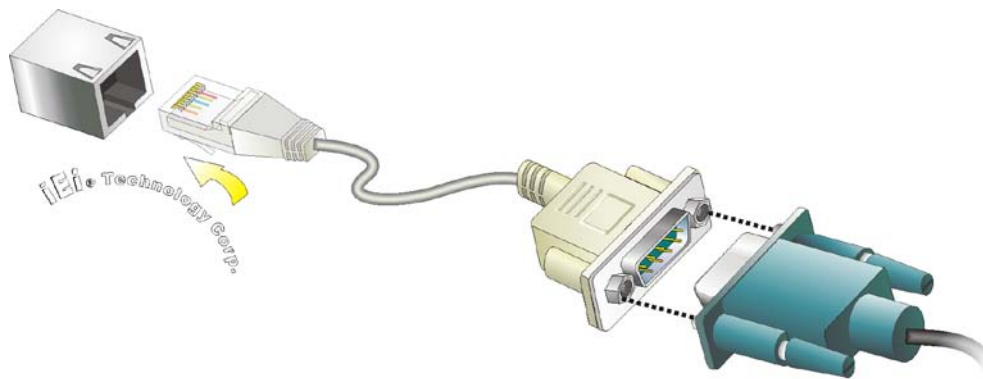

Figure 3-26: RJ-45 RS-422/485 Serial Device Connection
Step 2: **Insert the RJ-45 connector.** Insert the RJ-45 connector on the RJ-45 to DB-9 COM port cable to one of the RJ-45 RS-422/485 connectors on the TANK-720. See **Figure 3-26**.